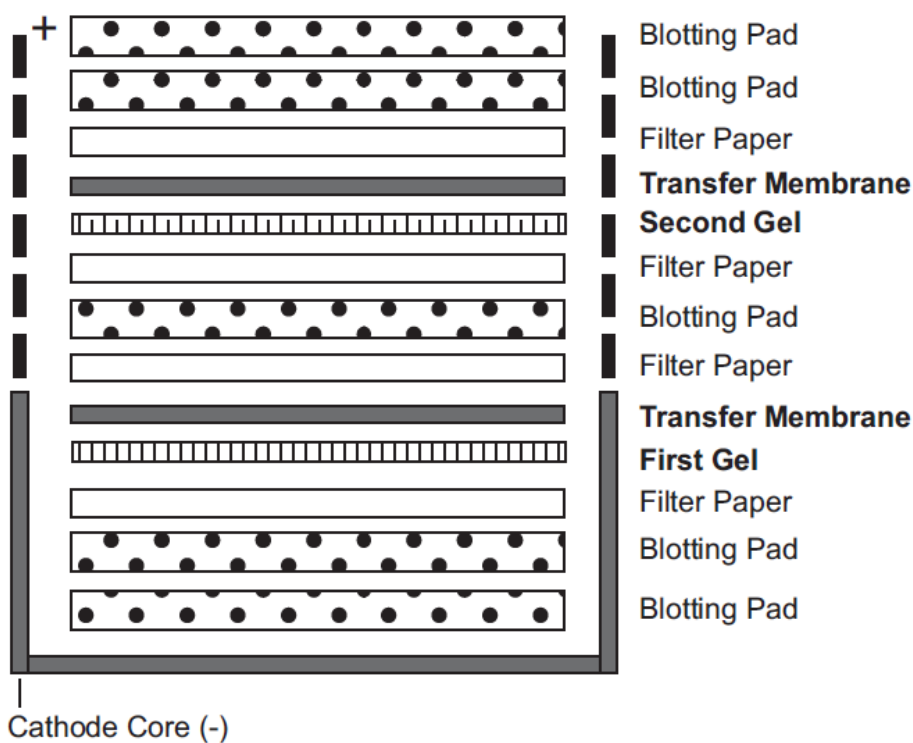

Figure 2
2. Place two pre-soaked pads on cathode shell of blot module. Place the first gel/membrane assembly on the pads such that the gel faces the cathode plate. (See Figure 2).